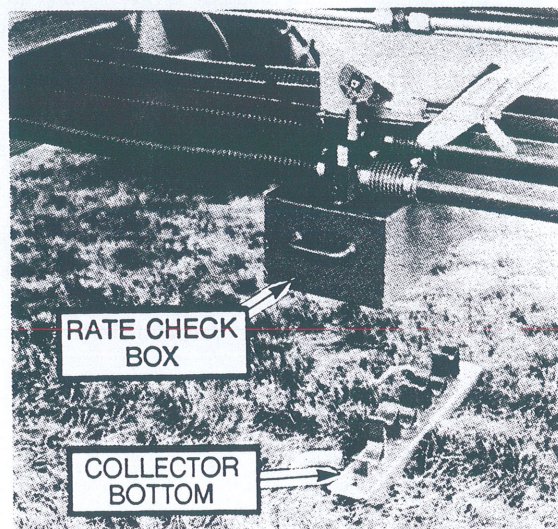

Figure 29 - Collector Bottom Removed
- Remove the bottom of the collector. (See Fig. 29).
- Slide rate check box on to the collector body. (See Fig. 29).